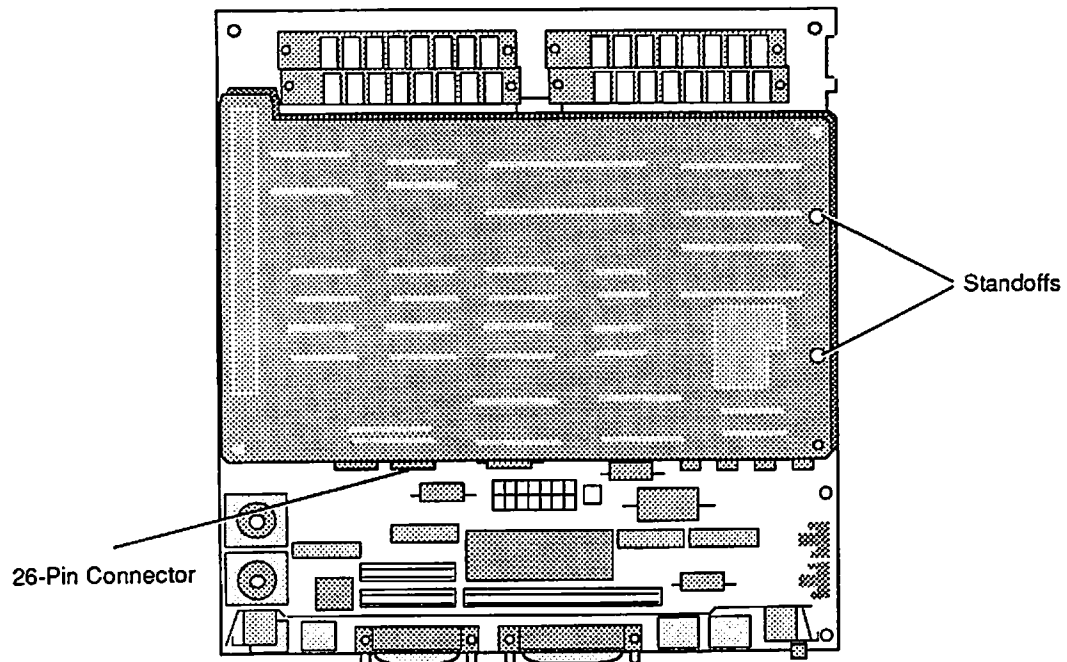

Figure 5-6 Connecting the Card
7. **Figure 5-6.** Align the plastic standoffs on the card with the mounting holes on the main logic board. Push the standoffs into the holes until they snap into place.
8. **Figure 5-6.** Position the Macintosh SE with the face down and the bottom toward you. Plug the SE-Bus PC Card cable into the 26-pin connector on the card.